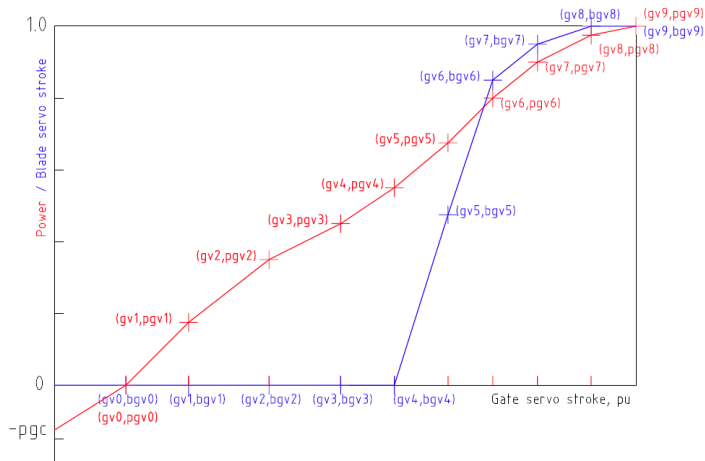

Figure 4: Turbine power-gate and blade-gate curves
- (g) Each curve is specified by ten points (numbered 0-9) corresponding to ten values of gate servomotor stroke which are given as gv0 - gv9. The same set of servo stroke values is used for both curves. Figure 4 shows the form of the turbine curves. The value of gv0 should normally be greater than zero and the value of gv9 should normally be 1.0. The value of pgv9 need not be equal to unity.